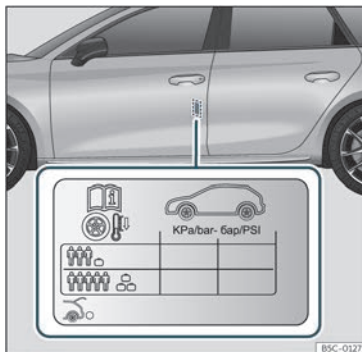

Fig. 223 Location of the tyre pressure sticker.
- Adjust tyre pressure to the load being carried by the vehicle»» Fig. 223.
The tyre inflation pressures are listed on a sticker on the rear of the front left door frame»» Fig. 223.
The tyre pressure must be adjusted according to the load the vehicle is carrying. If the vehicle is going to carry the maximum load, the tyre pressure should be increased to the maximum value indicated on the sticker »» Fig. 223.
In the case of a minimised temporary spare wheel (125/70 R16 or 125/70 R18), inflate to a pressure of 4.2 bar as indicated on the tyre pressure label»» Fig. 223.
tyre pressure is indicated on the label >>> Fig. 223.
- When the tyres are cold, tyre pressure should be that indicated on the label >>> Fig. 223.